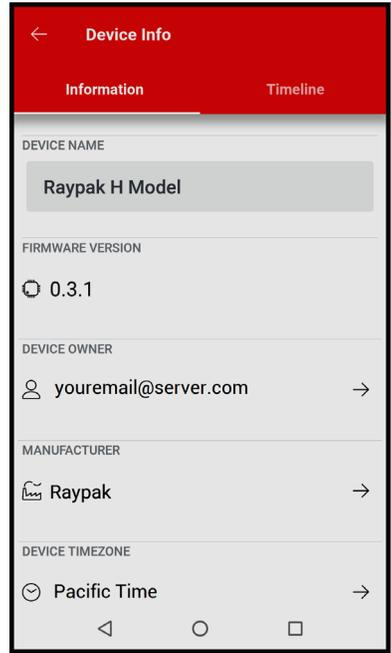
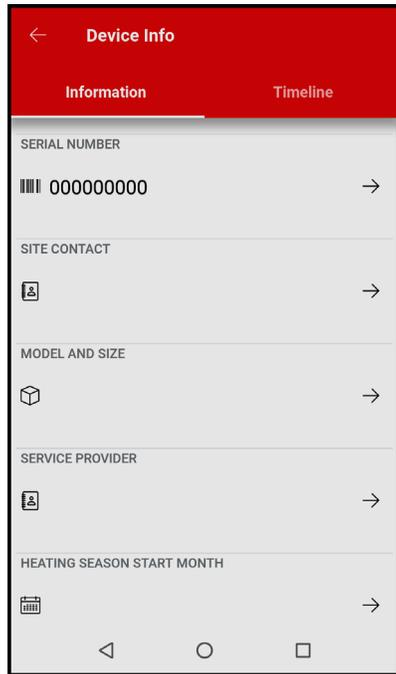

Figure 25. Device Setup, Naming
Figure 26. Device Setup, Details
3. During device configuration, basic reference information about the unit will be requested, including service provider, site location, and user requirement. See **Figure 25** and **Figure 26**.